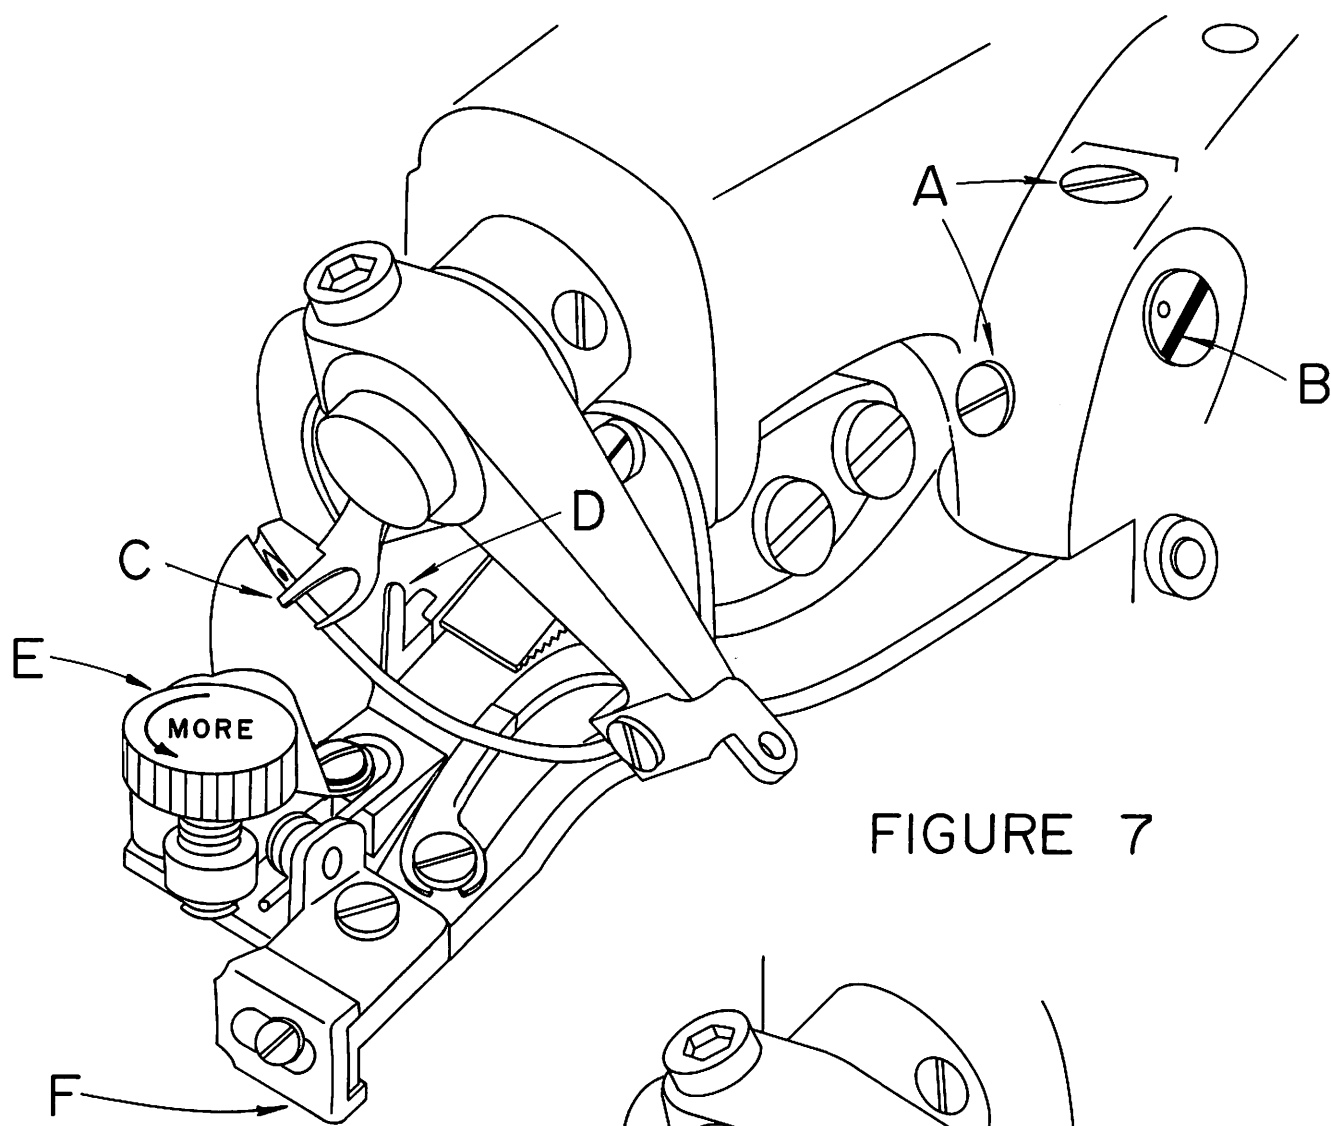

FIGURE 7
2. If an adjustment is necessary, do the following: Insert sleeve in place for sewing, but not over vents or seams. Loosen adjustment screw, item "E", Figure 7, so that shoe does not bear down on fabric. Turn handwheel away from you until needle penetrates lining and upper part of the sleeve only. If needle does not penetrate fabric, adjust penetration dial, Figure 4. With the needle penetrated through the lining and the upper part of the sleeve, turn shoe adjustment screw so that shoe rests lightly on fabric. Try the sleeve application. If the needle penetration is too deep, the thumb screw Item "E", should be moved in direction of arrow; if penetration is not deep
2. Any time a looper is moved or changed. recheck the looper timing and reset if necessary. Proper looper timing is absolutely essential for correct stitch formation. As described in detail below, a properly timed looper will pass over the needle in the correct position to pick up the loop, and also clear the chain-off pin, feeder, looper slot, and needle. The first check point for timing the looper is at the position where the looper picks the thread loop off the needle during the needle return stroke. Referring to Figure 7, (Point "C"), the long prong of the looper should pass over and just clear the scarf of the needle, approximately 3/32" (2.4MM) behind the end of the needle eye. At the same time, the short prong of the looper should pass over the needle with about 1/64" (.406MM) clearance, and must be so set that it also clears the chain-off pin (Item "D" in Figure 7).
1. After considerable service, it may become necessary to replace the chain-off pin, (Item "D" in Figure 7).
1. The thread should release when the needle is located 3/8 of an inch from the left edge of the presserfoot (Figure 7). This measurement is to be taken when the needle stroke is moving towards the left side of the foot.